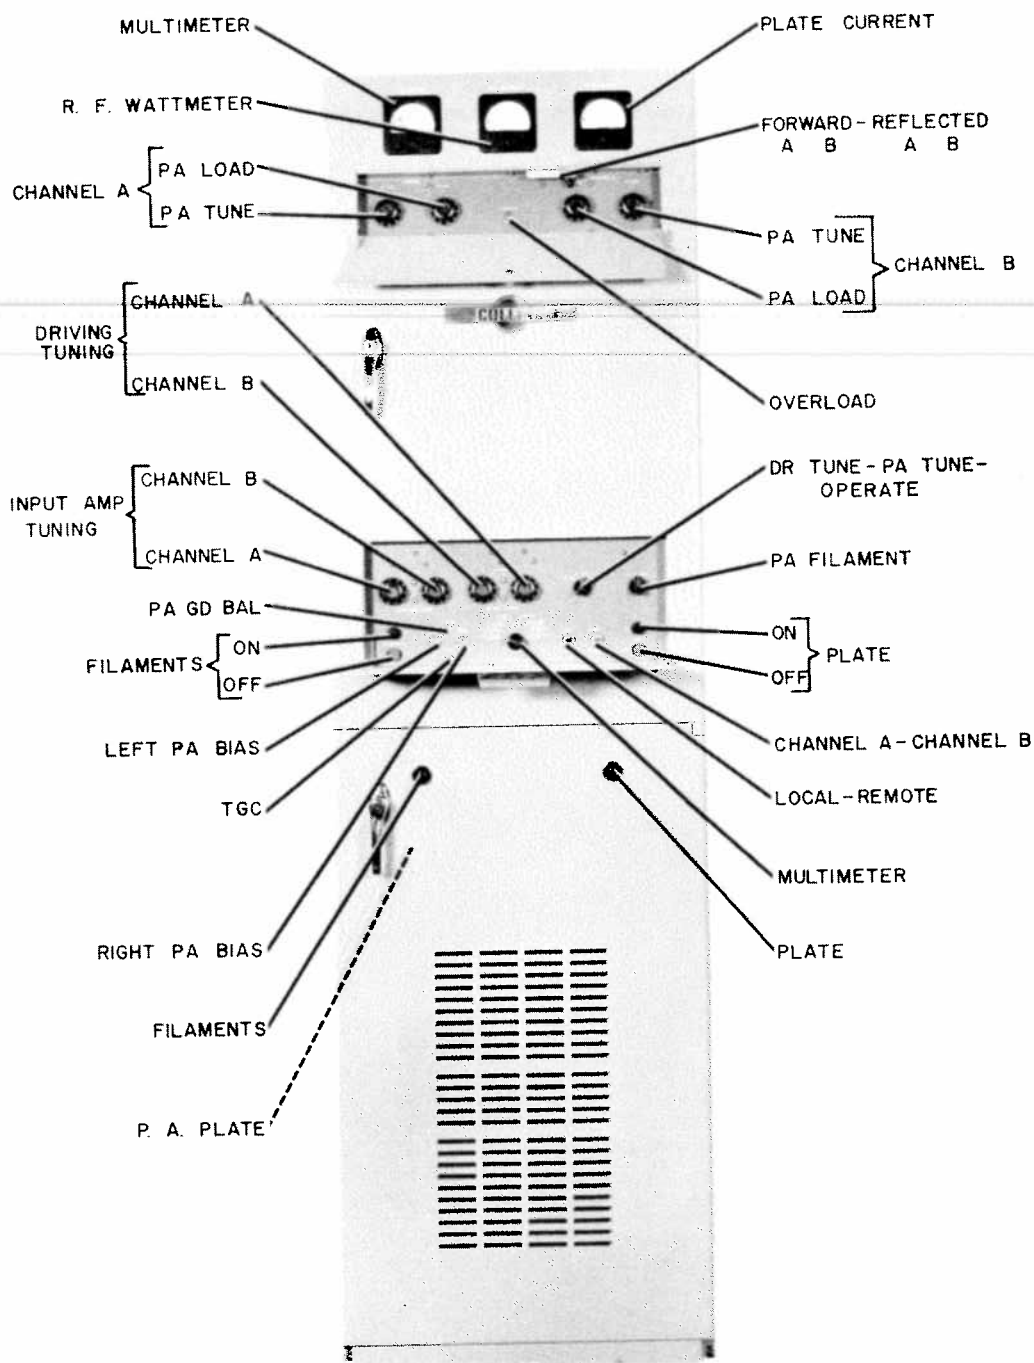

Figure 3-1. Linear Power Amplifier 204F-1, Operating Controls
2.3.2.2 APPLICATION OF PRIMARY POWER. Refer to figure 3-1 for location of controls and indicators listed below:
2.3.3 INITIAL ADJUSTMENTS. Refer to figure 3-1 for location of controls and indicators listed below:
Figure 3-1 shows the location of the adjustments, controls, and indicators used to operate the linear power amplifier. Their functions are given in table 3-1.